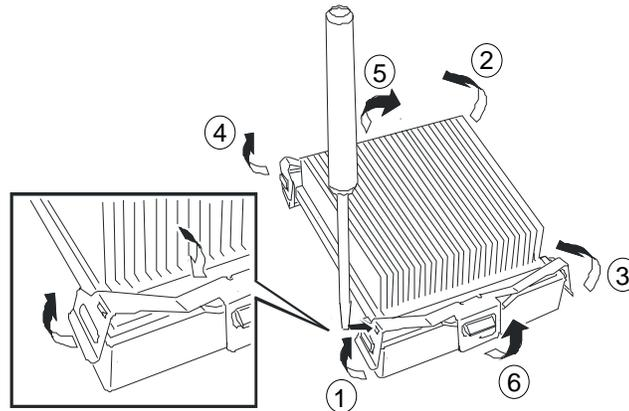

Figure 4-13. Removing the Processor Fan Heatsink
5. Remove the heat sink from the top of the processor by inserting a small screwdriver into the slots on its heat sink clips. Release the clip pressure points in the order (1-6) shown in Figure 4-13.